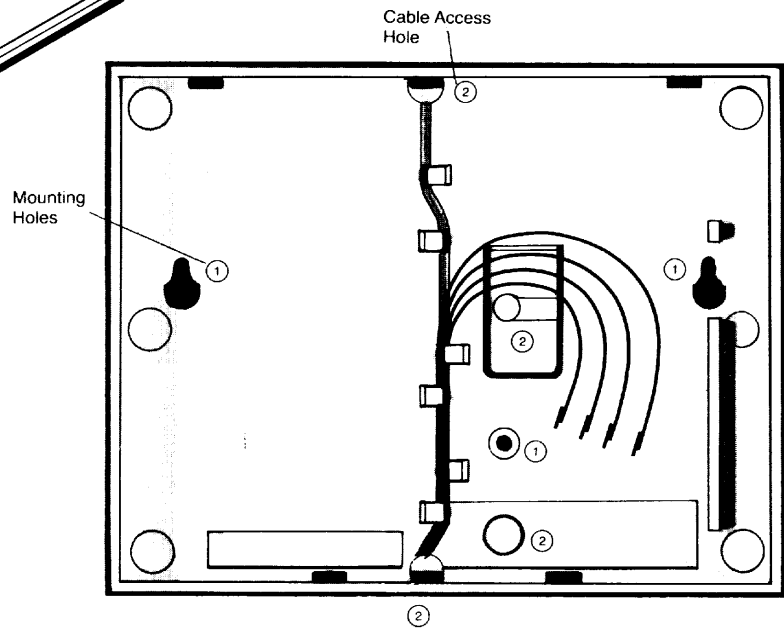

FIGURE 3.
- STEP 6** : Release the screw and insert the cable through the access hole in the circuit board as shown in Figure 3.